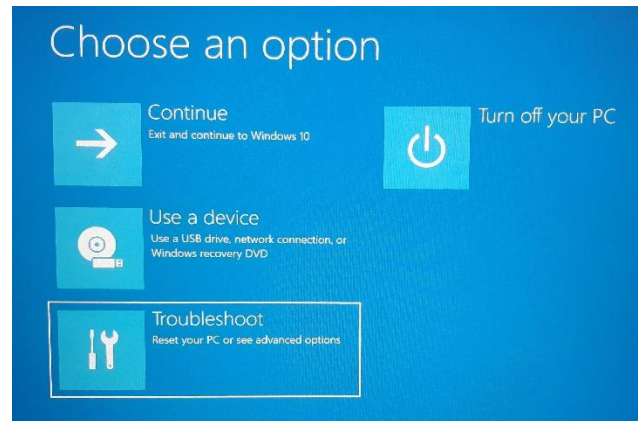

Figure 5.22. Troubleshoot Option
3. When the **Choose an option** screen appears as shown in Figure 5.22, release the Shift key.